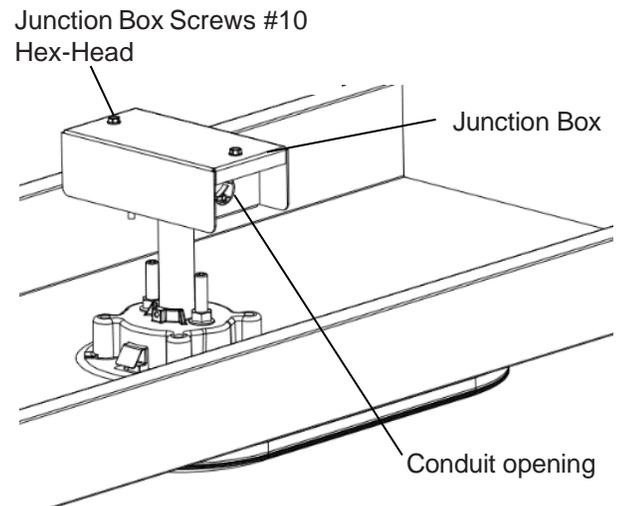

Figure 7
- For access to branch terminations, remove (2) #10 hex-head fasteners (Fig. 7).
- Re-install Junction Box top cover with (2) #10 hex-head fasteners.